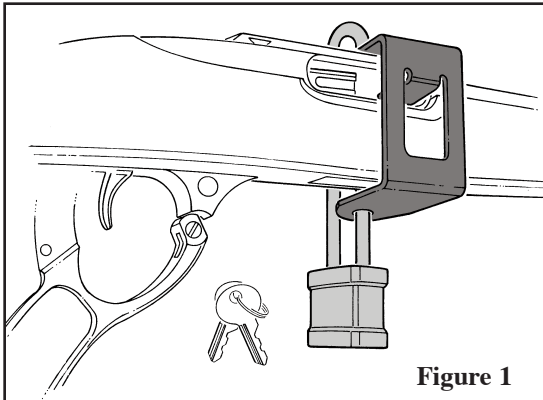
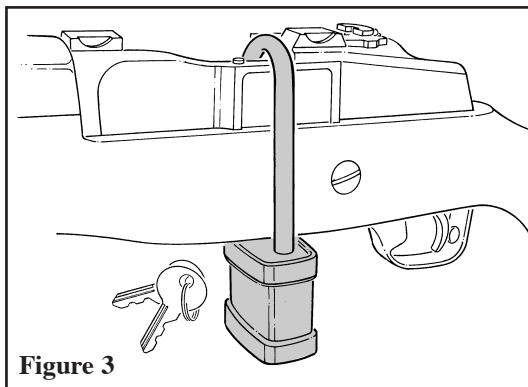

Figure 1
Figure 3
- If a clamp (black metal bracket that receives the lock) was supplied with your firearm, apply the clamp as shown in Figure 1 or 2.
- Apply the lock to your Model 96 or 10/22 rifle by placing the lock into the clamp as shown in Figure 1 or 2, or directly to your Mini-14 Ranch rifle or Mini Thirty rifle as shown in Figure 3, or to your LCP as shown in Figure 4.